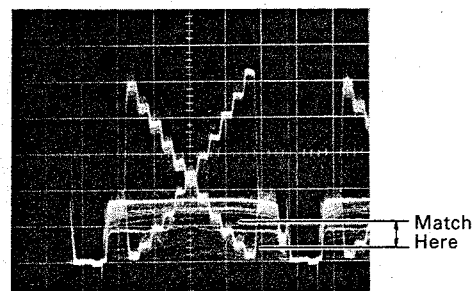

Fig. 6-4-25
- Next, adjust YL PEDESTAL VR306 so that the gray scale's 0~2nd step of YL signal matches that of B. signal. (Fig. 6-4-25)